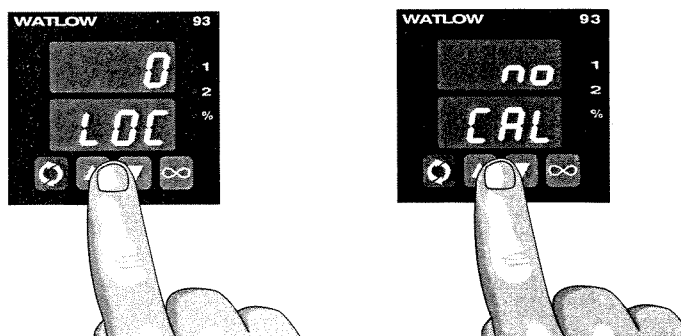

Figure A.3 -
3. Apply power to the controller and allow it to warm up for 15 minutes. **After warm-up** put the controller in the Calibration Menu. See Figure A.3. Select **[YES]**.
3. Apply power to the controller and allow it to warm up for 15 minutes. **After warm-up** put the controller in the **[CAL]** menu. See Figure A.3. Select **[YES]**. Press the **⊕Advance** key until the 440 prompt is displayed.
3. Apply power to the controller and allow it to warm up for 15 minutes. **After warm-up** put the controller in the **[CAL]** menu. See Figure A.3. Select **[YES]**. Press the **⊕**Advance key until **0.00** is displayed.
3. Apply power to the controller and allow it to warm up for 15 minutes. **After warm-up** put the controller in the **[CAL]** menu. See Figure A.3. Select **YES**. Press the **⊕**Advance key until **4** is displayed.
3. Apply power to the controller and allow it to warm up for 15 minutes. **After warm-up** put the controller in the **[CAL]** menu. See Figure A.3. Select **YES**. Press the **⏩** Advance key until the 4A0 prompt is displayed.